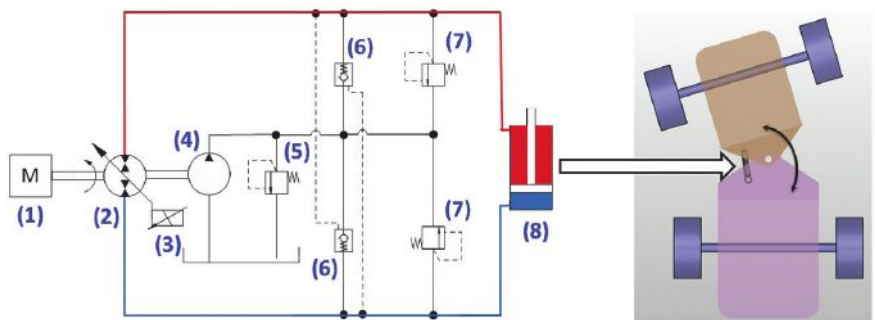

Figure 1. DC steer-by-wire hydraulic schematic.
Figure 1 is a schematic of the new DC steer-by-wire system. The actuator (8) velocity is controlled by adjusting the speed, displacement, or both, of an axial-piston variable-displacement pump (2). The pump input and output ports are connected to the piston and rod sides of the actuator. The differential fluid flow between the actuator's uneven sides is